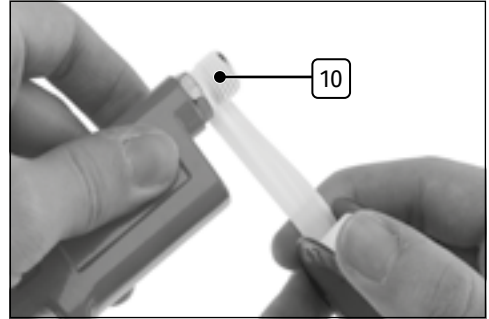

Fig. 8
3. Wrap a length of PTFE tape around the spray gun air line inlet **10** (Fig. 8).